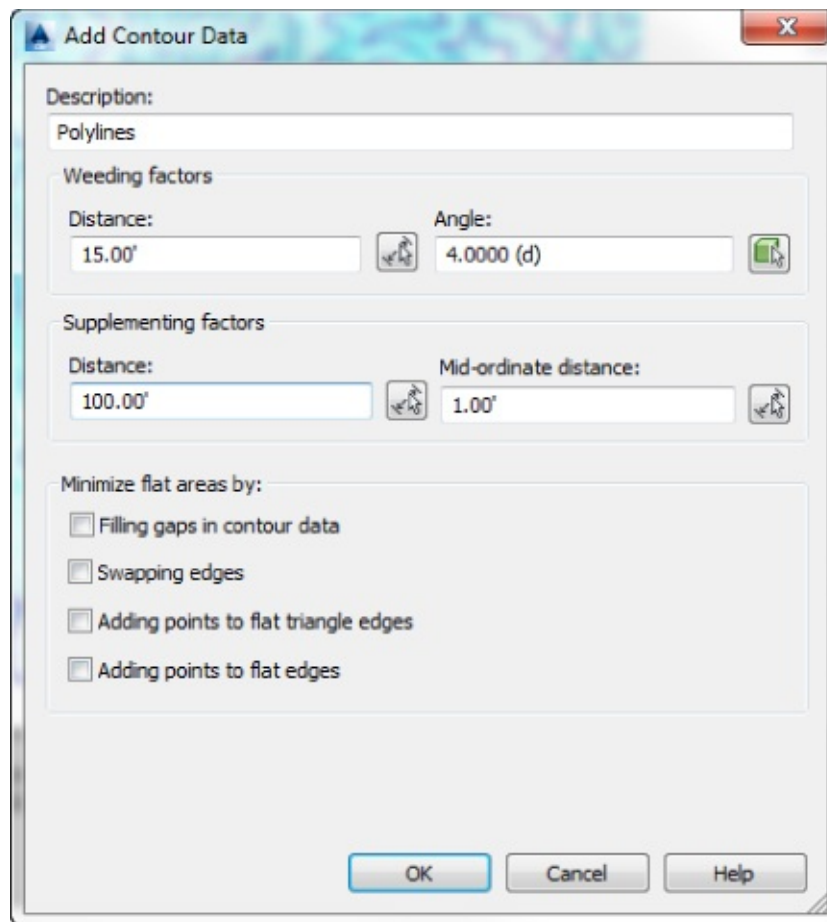

Figure 4.24 The Add Contour Data dialog
11. Verify that none of the check boxes are checked, as shown in Figure 4.24, and click OK.